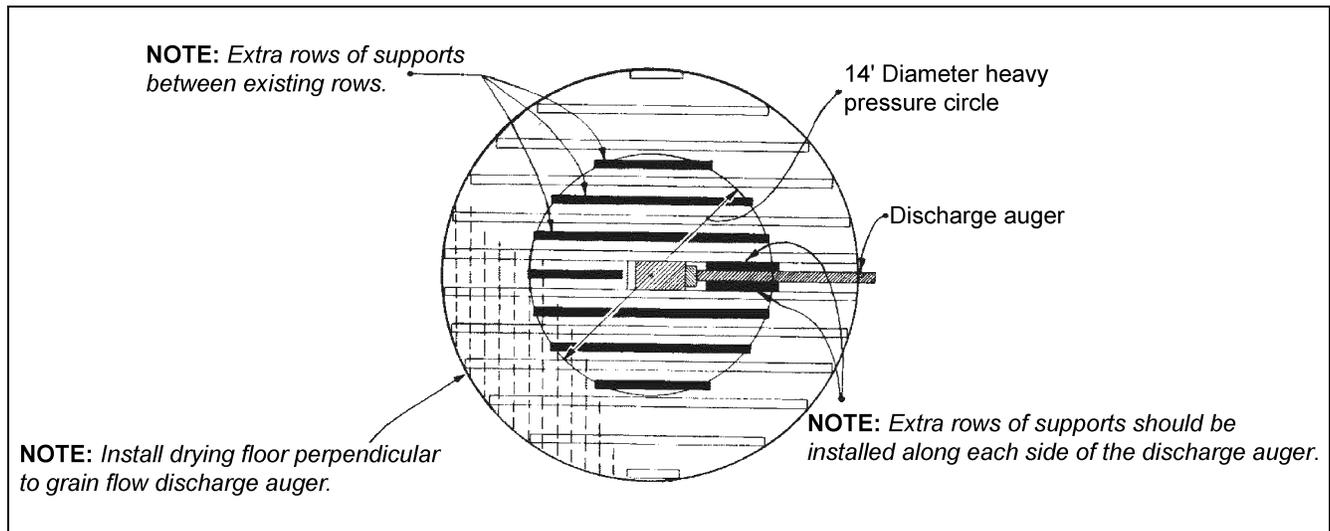

Figure 5V
When installing a Grain Flow in an existing bin, the drying floor will not have to be totally removed providing the Grain Flow discharge auger is going to be located perpendicular with the drying floor. (See Step 18 and Figure 5V on Page 26.)
18. Install the drying floor. An area 14' in diameter in the center of the bin MUST have extra floor supports to hold the extra down pressure that occurs during the operation of the Grain Flow. Install the floor perpendicular to the discharge auger starting on the opposite side of the bin from the auger. (See Figure 5V.)
For existing bins, replace the drying floor taken out. Follow Step 18 instructions. (See Figure 5V.)